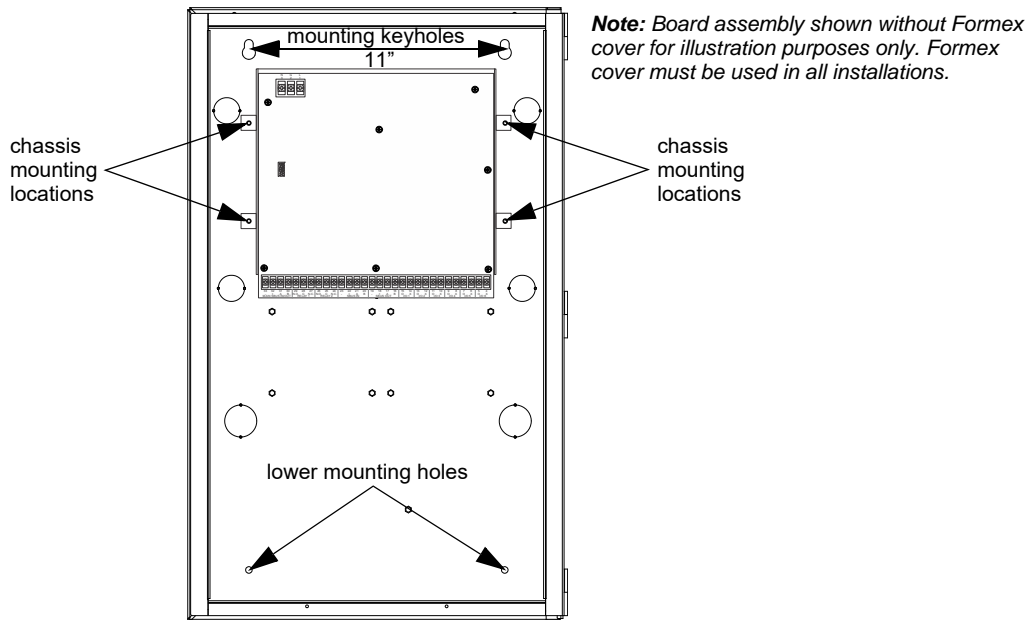

Figure 3.1 FIK-RPS1000 Cabinet Mounting
2. Remove the four nuts which secure the chassis to the cabinet. Refer to Figure 3.1 for mounting locations.